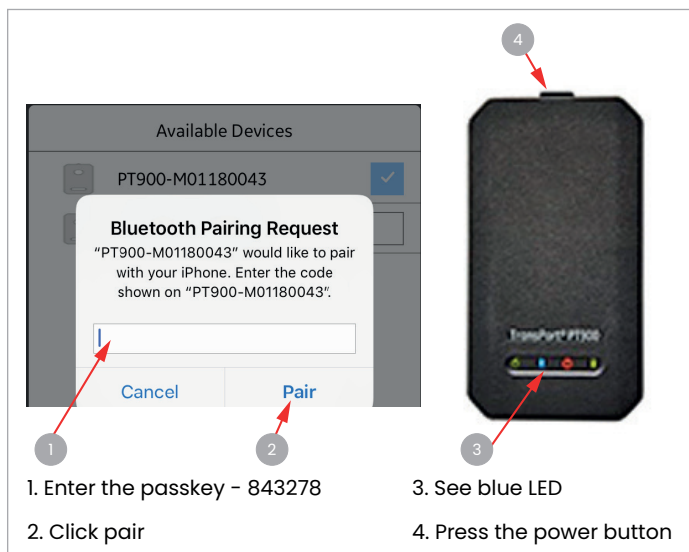

Figure 69: Confirm the pairing
11. During the pairing process, PT900 security features require the user to confirm the pairing (see *Figure 69* below). When the Bluetooth pairing request appears on the tablet, enter the passkey and click pair. Then, confirm that the blue LED on the transmitter is flashing and click the transmitter power button within 10s. Passkey for this device is 843278.